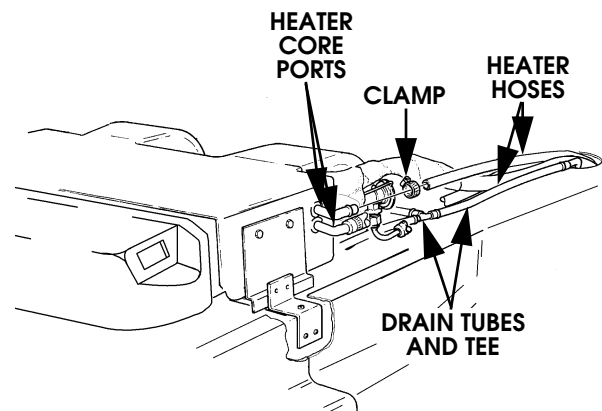

Figure 1-87: Auxiliary Heater Hose Routing
3. Remove heater hoses from auxiliary unit heater core ports (Figure 1-87).
5. Remove drain tubes from auxiliary unit (Figure 1-87).
2. Install drain tubes on auxiliary unit (Figure 1-87).